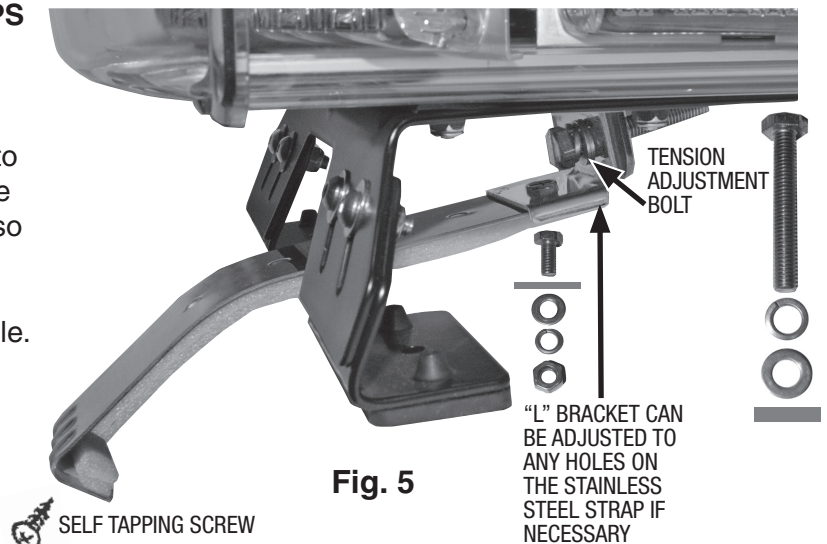

Fig. 5
11. Tighten the two-(2) tension adjustment bolts evenly. While tightening the bolts make sure the light bar remains in the desired mounting position on the roof. Torque bolts to 10-12 ft-lbs. Failure to properly tighten the tension adjustment bolts and straps could result in damage to the vehicle and/or injury to driver or others.
12. The hook of the stainless steel strap that is secured to the vehicle's window ledge has a hole located in the middle. Using the hole in the hook as a template and drill a 5/32" hole. Secure the hook to the vehicle using the self-tapping screw provided. **IMPORTANT:** The installer may have to lower the headliner and inspect the selected location to ensure that there are no components, wires and or any other vehicle part that could be damaged by drilling. See Fig. 5.